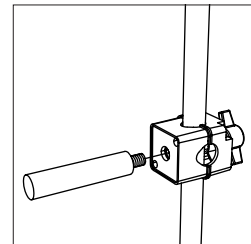

Figure 10: Sensor stud and clamp
4. Secure the included sensor clamp to the rod. Screw the sensor stud into the clamp (Figure 10).